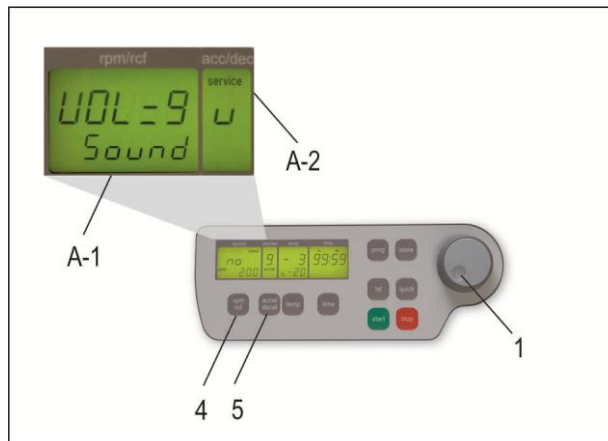

Figure 6
Proceed as described under point 1.8.1 to enter this program mode and then press the key „accel/decel“ (5). In the display „accel/decel“ (A-2) flashes the word „service“. Now select the letter „U“ with the adjusting knob (1). As a result appear in the display „rpm/rcf“ (A-1) the words „Vol=0- 9/Sound“. After pressing the key „rpm/rcf“ (4), you can adjust the desired volume between 0 (low) and 9 (loud) with the adjusting knob (1) (see figure 6).